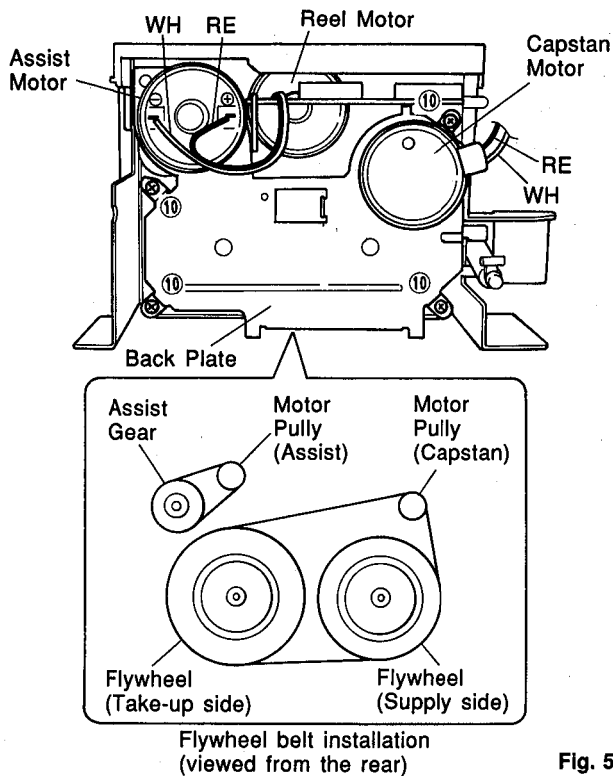

Fig. 5
- b. Remove 4 screws (10) in Fig. 5 and then remove the Back Plate.